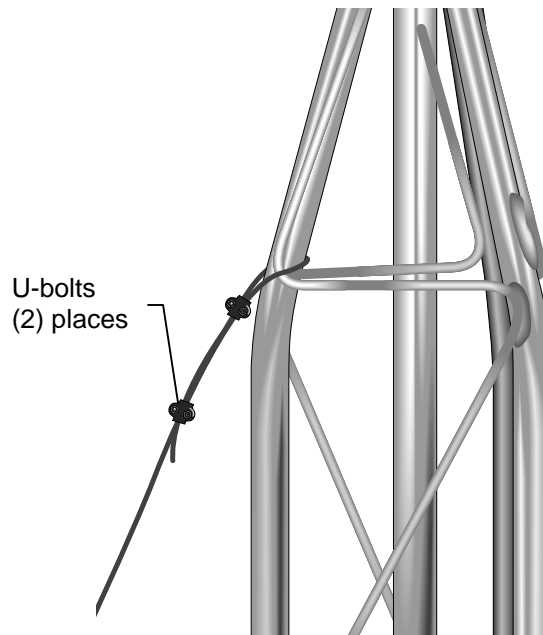

FIGURE 2.1-8. Guy Wire Attached to Tower
2. Install the guy wires to the top of the tower (Figure 2.1-8). Cut the 120' piece of guy wire into three pieces; lengths will vary with slope. Attach the guy wires to the tower using two U-bolts for each guy wire.